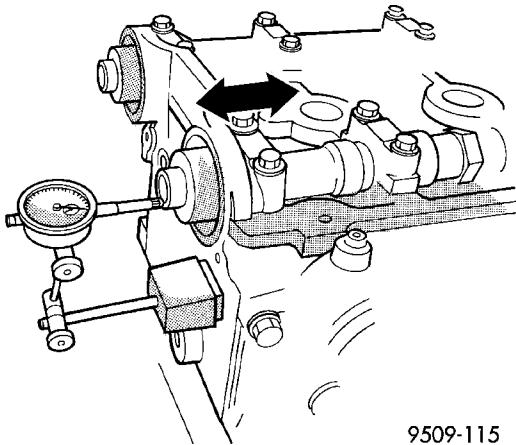

Fig. 19 Camshaft End Play - Typical
(1) Oil camshaft journals and install camshaft **WITHOUT** rocker arms. Install rear cam caps and tighten screws to specified torque.
(2) Using a suitable tool, move camshaft as far rearward as it will go.
(3) Zero dial indicator (Fig. 19).
(4) Move camshaft as far forward as it will go.
(5) Record reading on dial indicator. For end play specification, (Refer to 9 - ENGINE - SPECIFICATIONS).